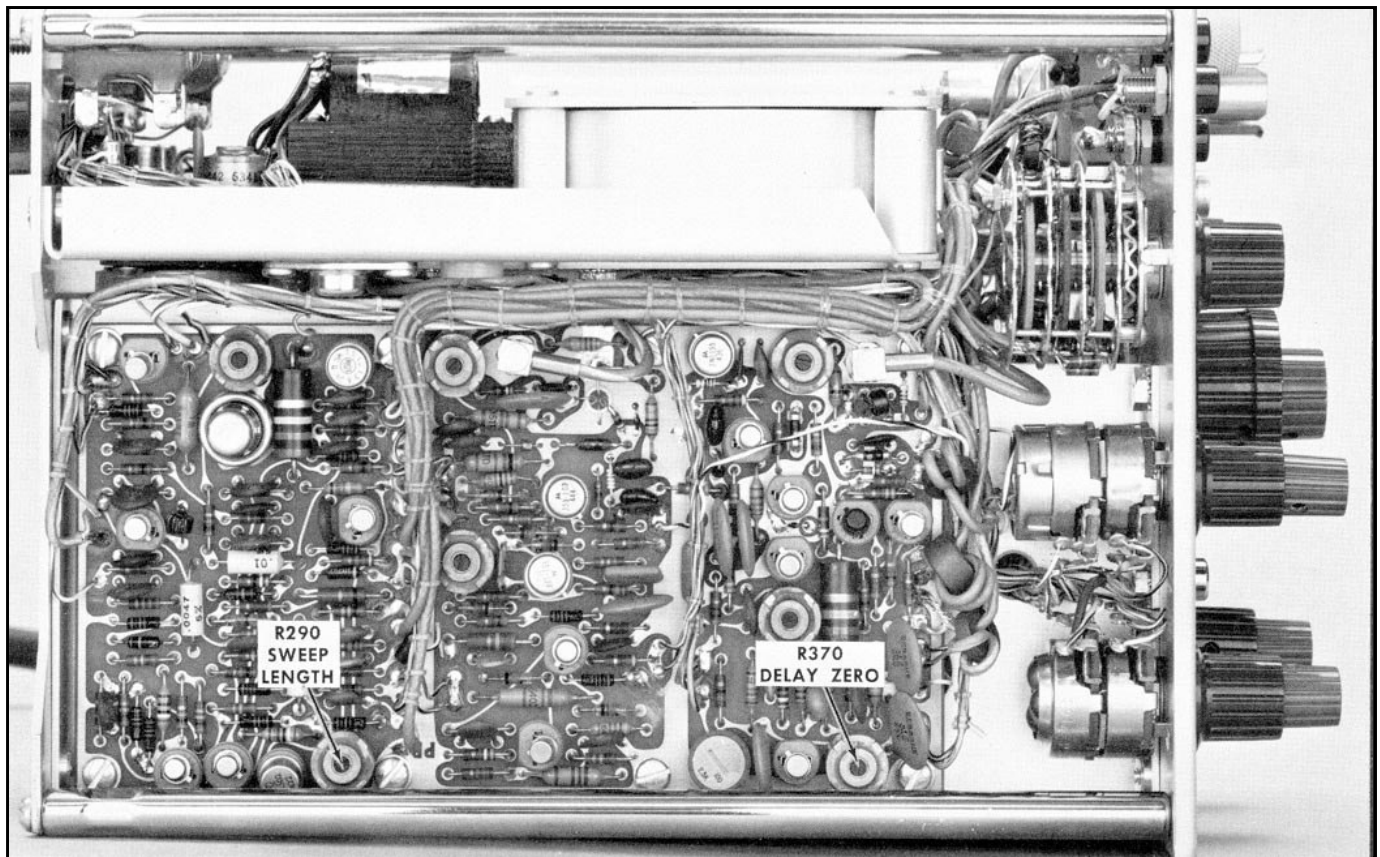

**Fig. 5-23. Typical indicator oscilloscope display for checking adjustment of R370 (DELAY ZERO).**
- e. Check that the negative-going pulse rise occurs from 3 to 6 cm after the start of the sweep (see Fig. 5-23). This control will be out of adjustment if step 7 was performed.